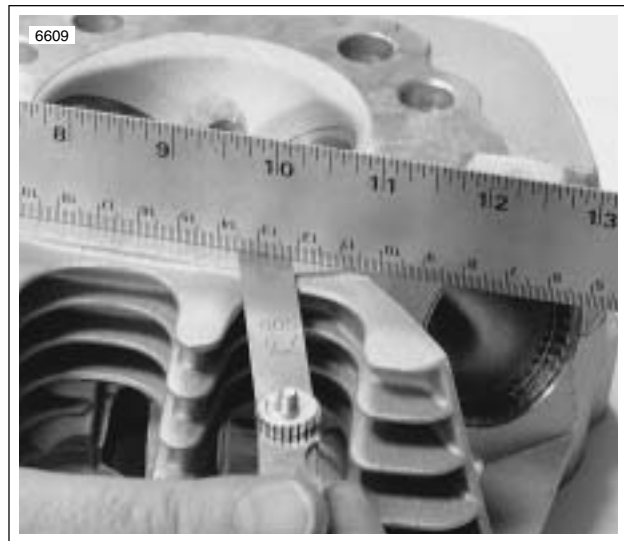

Figure 3-17. Checking Gasket Surface
19. See Figure 3-17. Check head gasket surface on head for flatness. Machine or replace any head which exceeds SERVICE WEAR LIMIT of 0.006 in. (0.152 mm).